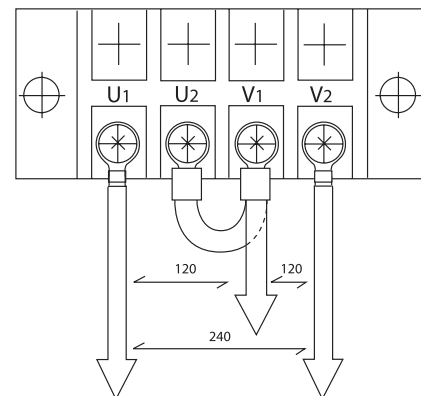

Figure 31: Output Terminal Board, 120/240 Volt Output
- b. Connect U2 and V1 on the output board (Figure 31). Connect output leads to U1 and V2 and neutral lead to V1 (or U2). 240 volt output is available from the leads connected to U1 and V2. The 120 volt load should be divided as equally as possible between two 120 volt circuits.